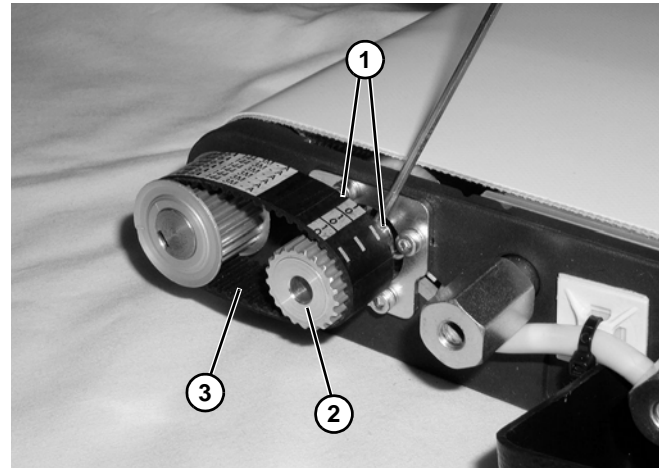

Figure 51
6. Loosen two set screws (Figure 51, item 1) on drive pulley (Figure 51, item 2). Slide drive pulley outward off of the gearmotor shaft, and remove timing belt (Figure 51, item 3).